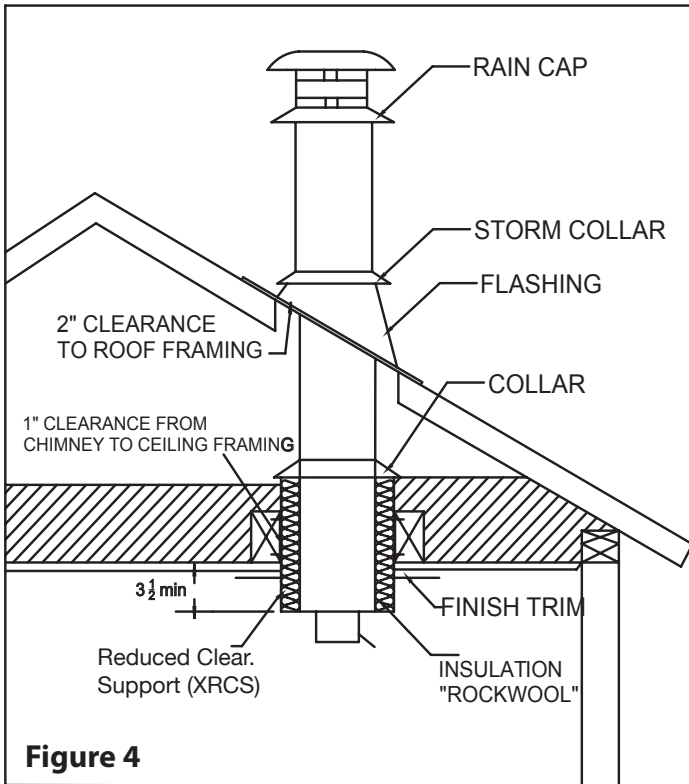

Figure 4
**NOTE:** If using the Reduced Clearance Support (XRCS) at the attic level, the use of the attic radiation shield is not required. The Reduced Clearance Support acts as an attic radiation shield when installed with insulation and a collar (provided) (see Figure 4).